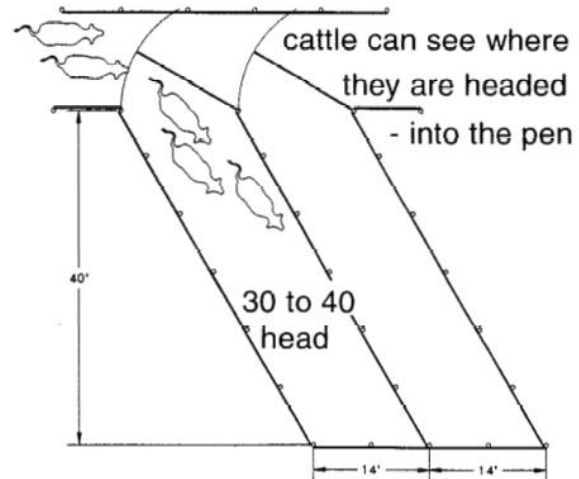

Figure 3 Sorting Pen Example
- The sorting pen needs to be angled to help allow cattle to see the pen before they enter. The sorting pen should be 40' long and 28' wide. A cross fence at 14' will help further sort the cattle (Figure 3).